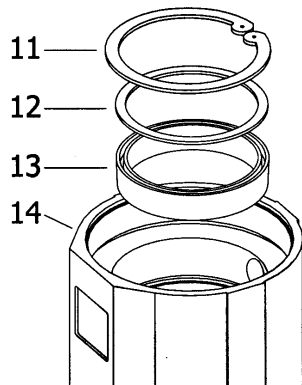

Fig. 10
5. Remove the piston (9) and disassemble the circlip (11), the washer (12) and the seal (13) (fig. 10). Check the piston for scratches and replace damaged parts.
6. Assemble the pump following the previous instructions, reversing each step. Use Loctite Blue #242 on the threads of the air-motor stem (5).
5. Quitar el vástago (9) y desmontar el anillo de seguridad (11), la arandela (12) y el collarín (13) (Fig. 10). Verificar que el vástago no esté rayado y sustituir piezas deterioradas.